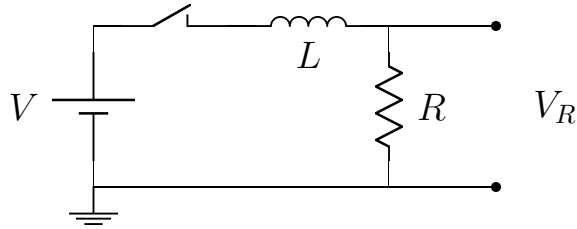

Figure 9: Setup for time response of RL circuits
The circuit shown in Fig. 9 and the one with R and L interchanged are to be investigated. Real inductors introduce a slight complication: they have an internal resistance, R_L , that is generally non-negligible and we have to write
2. Setup the circuit shown in Fig. 9. Use a series resistance (R in the diagram) that has a value comparable to R_L .